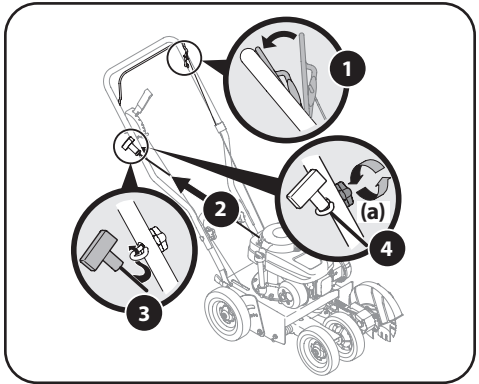

Figure 5
1. Stand behind the edger and hold the blade control against the upper handle. See Figure 5.
NOTE: The starter rope will not pull out of the engine unless the blade control (refer to Figure 5) is depressed against the upper handle.